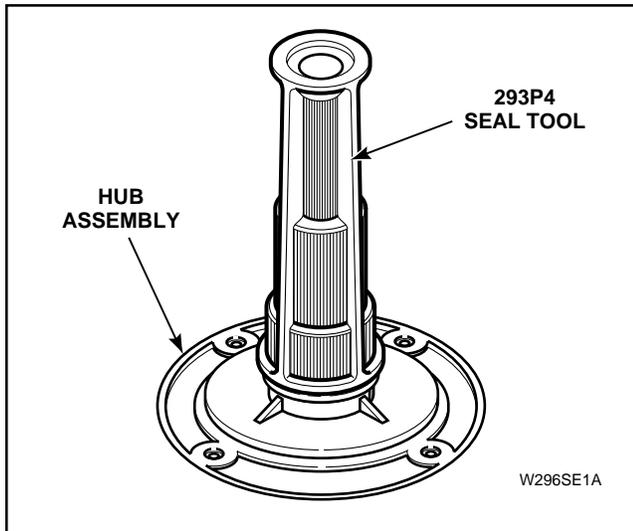

Figure 29
- o. Place new drive bell seal onto hub and carefully push into position using large end of No. 293P4 Seal Tool, *Figure 29*.